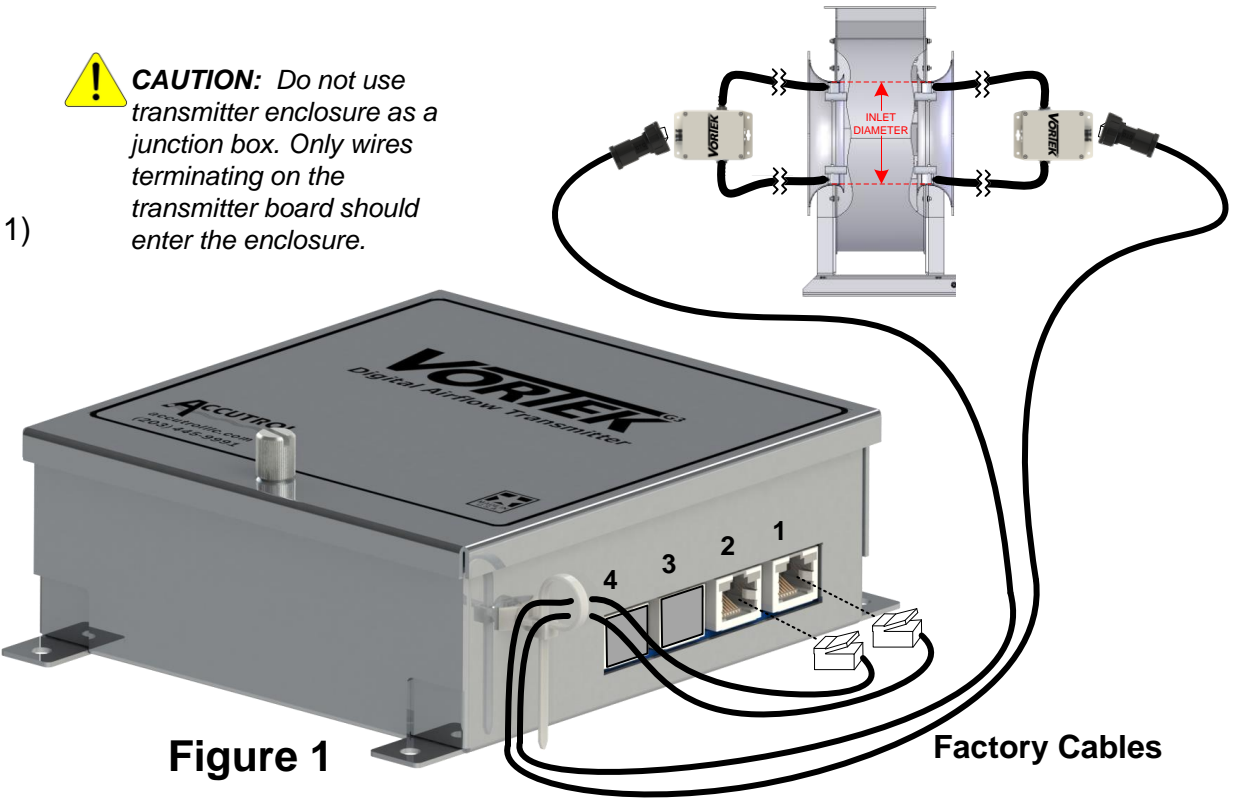

Figure 1
- 2. Using the four 0.20" diameter holes located on the transmitter enclosure, secure the transmitter to mounting surface using (4) #8 or #10 Pan Head Screws. For sheet metal mounting surface, use sheet metal or tek screws, for plywood surface use coarse thread wood screws, for drywall surface, use drywall anchors with the appropriate screws.
- 3. Connect each sensor to the corresponding sensor input channel on the transmitter using the cables provided (Reference Figure 1)